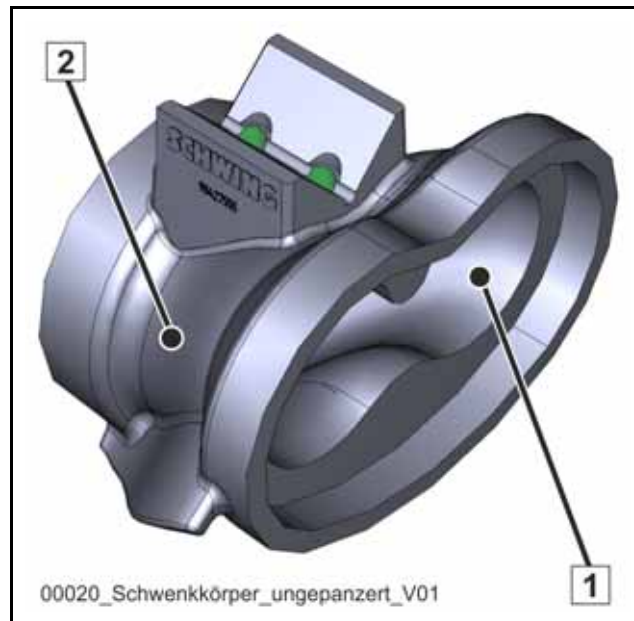

Fig. 349 Unarmoured swivel head (rock)
- unarmoured swivel head, see **(Fig. 349)**.
Caption (Fig. 349)